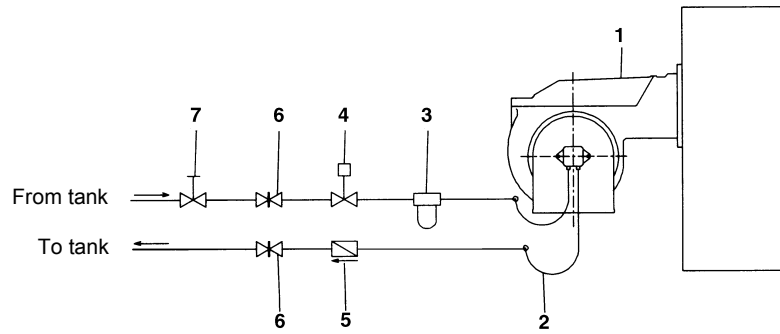

Fig. 11 - Double-pipe system
**NOTE:** in plants where gravity or ring feed systems are provided, install an automatic interception device (see n. 4-Fig. 11).